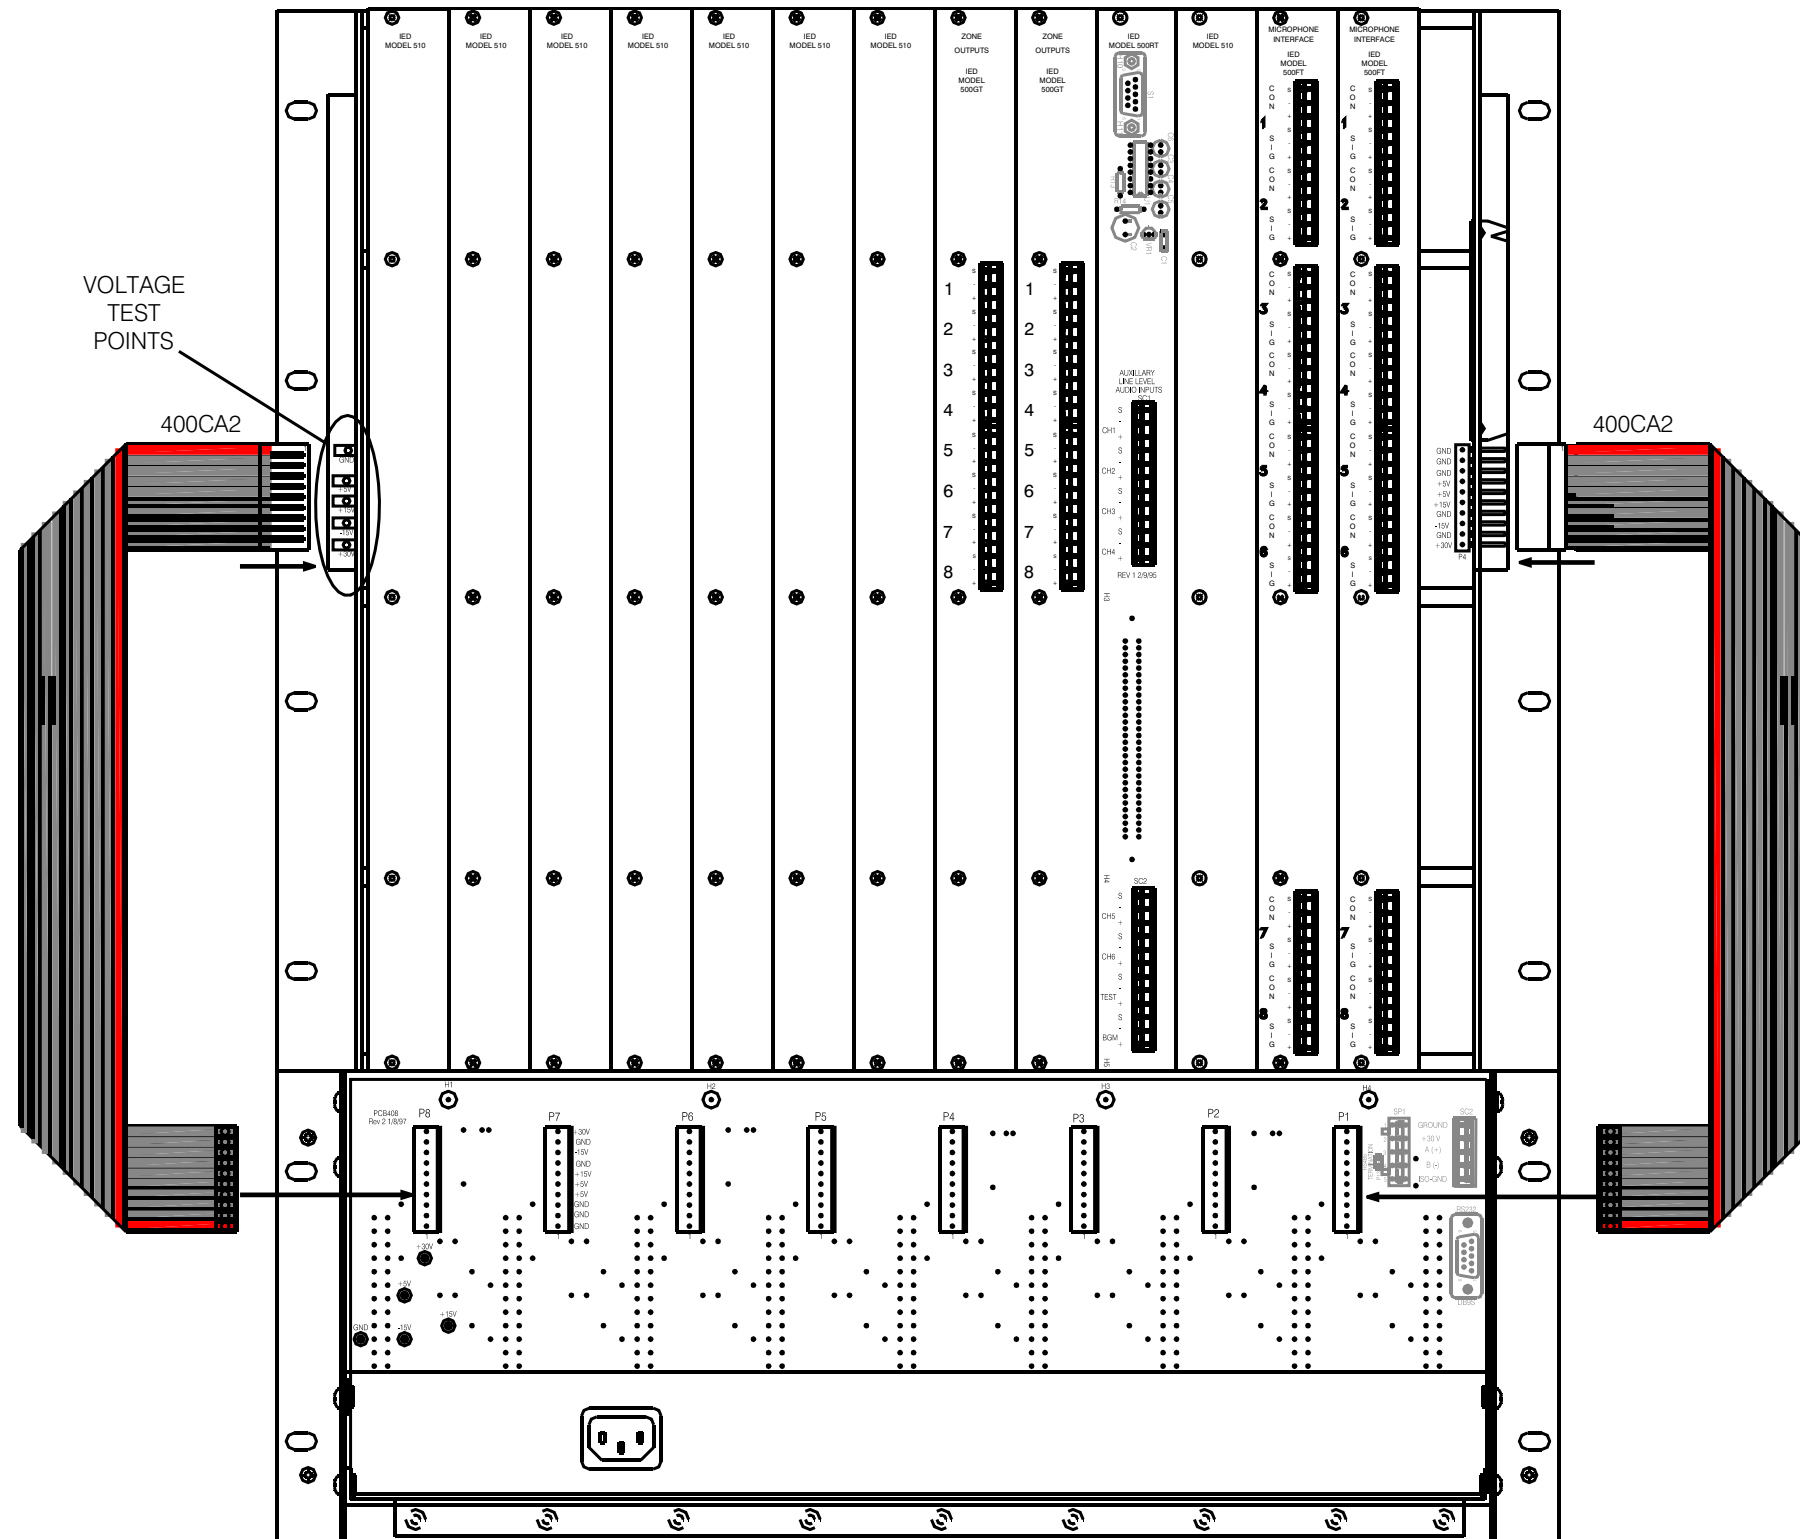
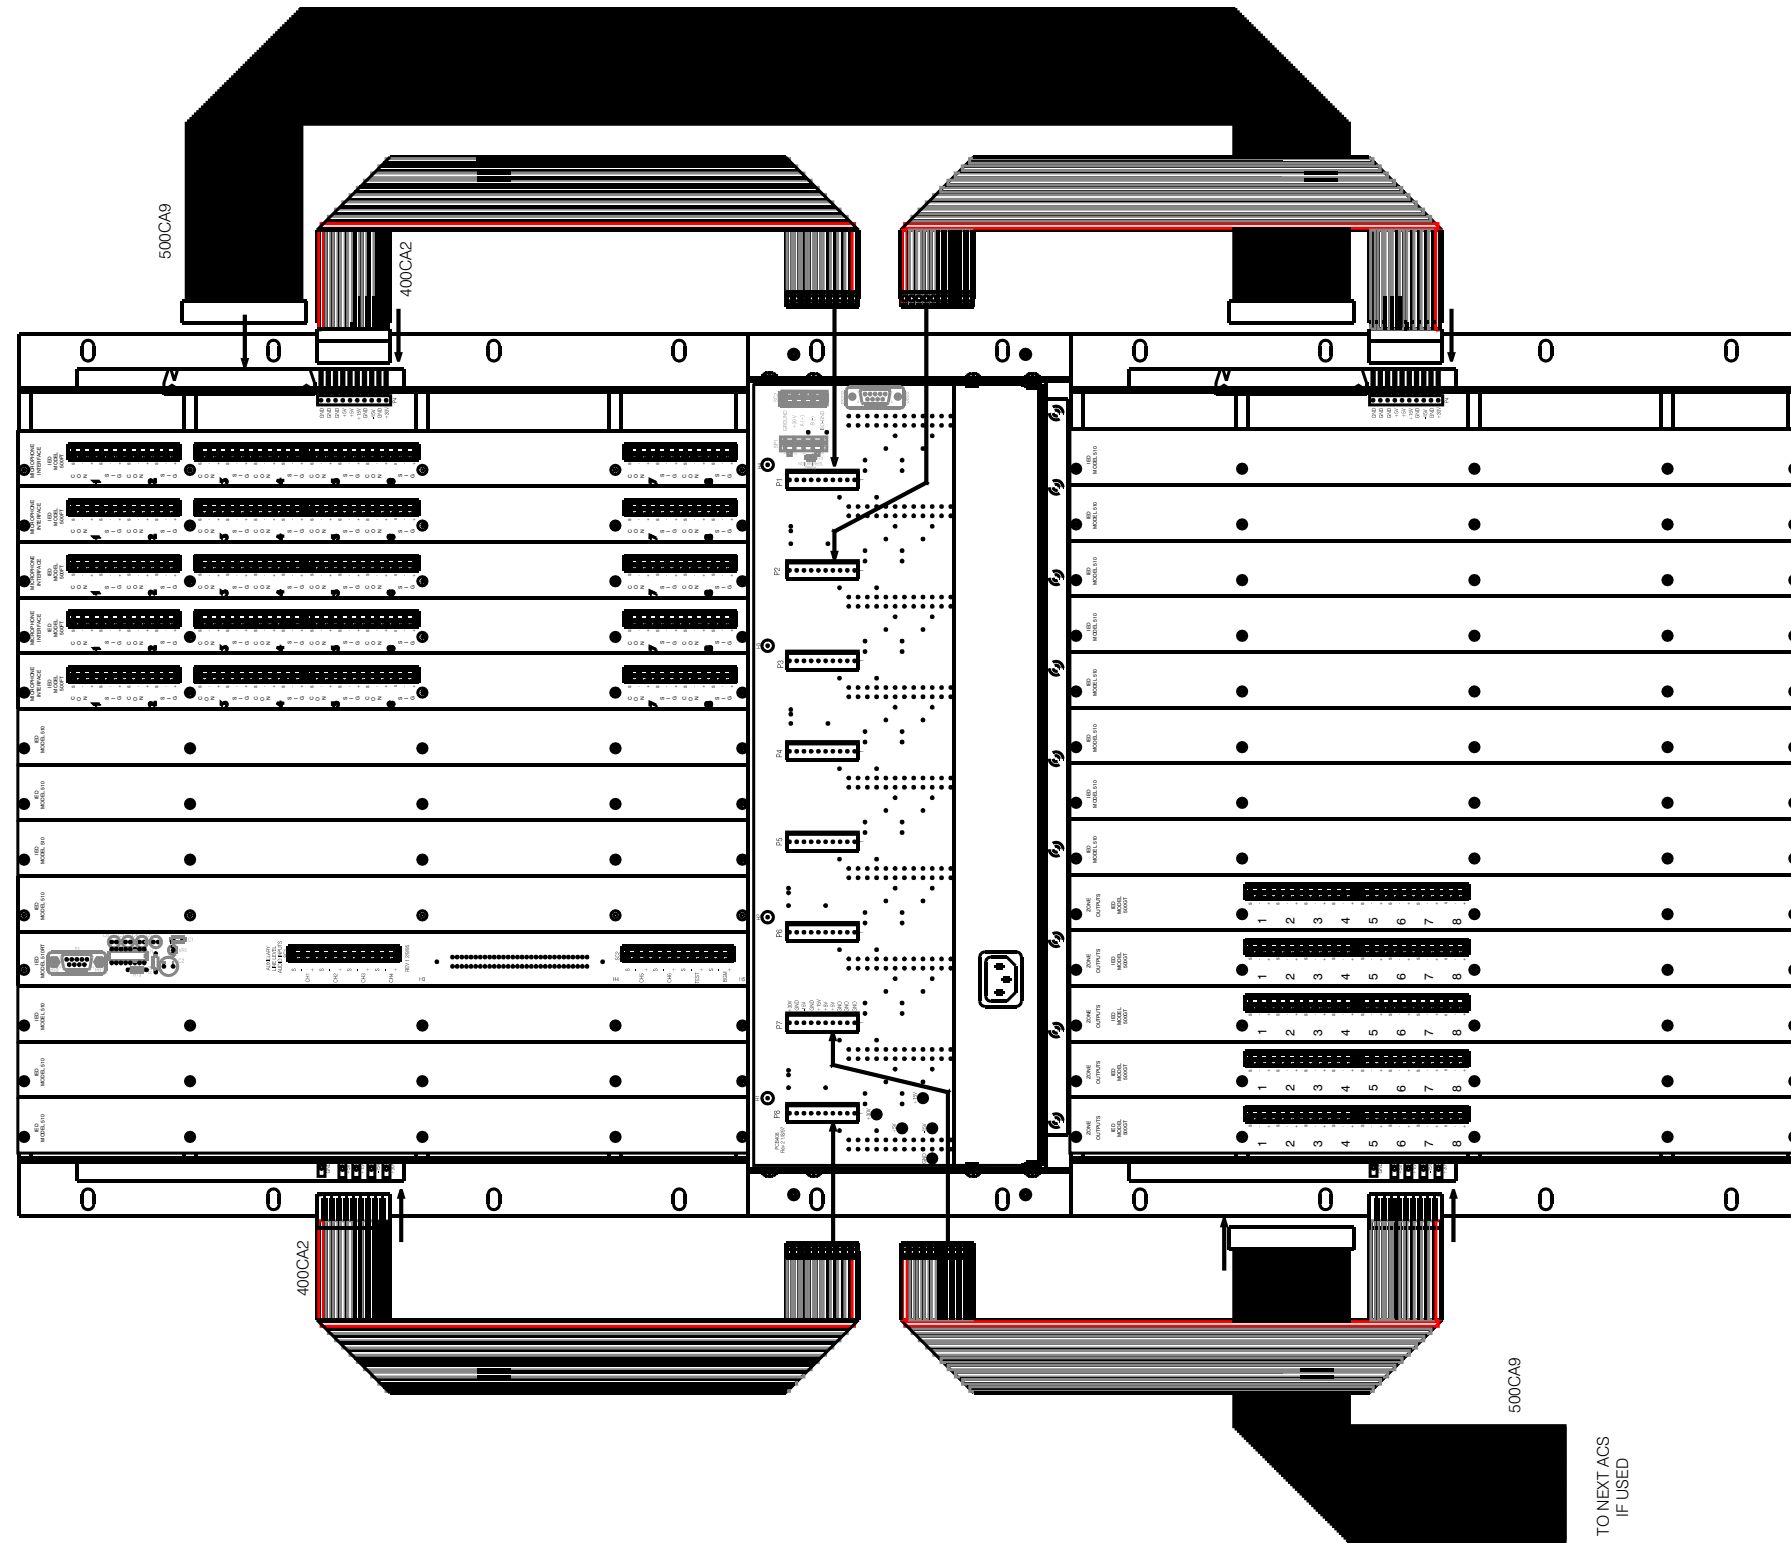

Figure 6 - Typical Power Cable Interface
Figure 7 - Typical Power and Multibus Cable Interface for Multiframe ACS Systems, Rear View with 500CPU-486
1. If a single mainframe is used, connect it to the 400PS Power Supply System as shown in Figure 6. If two mainframes are used, connect them to the 400PS Power Supply System as shown in Figure 7. In either case connections are made using 400CA2 cables which are supplied with the 500M Mainframes. If a third mainframe is used, 400CA3 cables, a longer version of the 400CA2 cables, will be provided.
4. Check voltages on the 500M mother board. If more than one mainframe is used, check voltages on the others, as well. See Figure 6. for the location of the voltage test points. Acceptable voltage levels are shown in table below. If there is a power supply problem the 400PS will beep and a red LED will flash on the 452CPU.